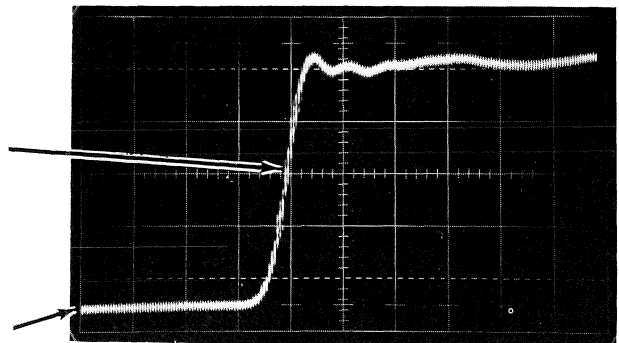
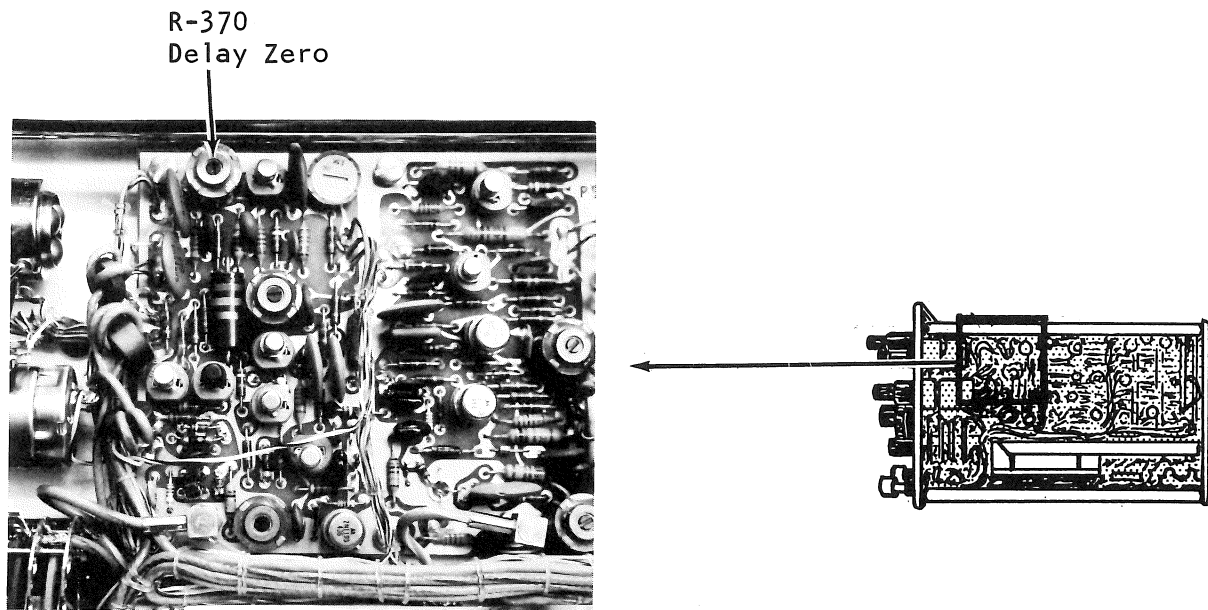

Figure 5-23
Figure 5-24
4. Position the start of the sweep under the left graticule line (see figure 5-23).
5. Adjust delay zero R-370 (see figure 5-24) for 4 nSEC of delay (refer to figure 5-23).